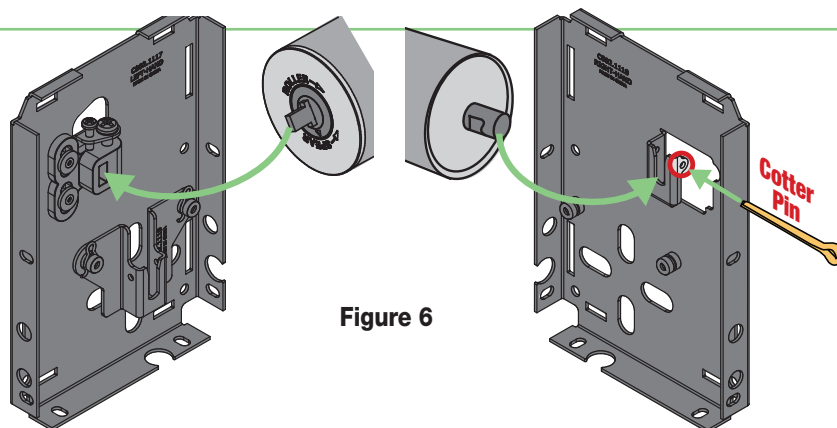

Figure 6
- Slide the fabric roller assembly into the brackets, spear-end first (Fig. 6).
- Install the cotter pin through the fabric roller idler bracket to secure the roller (Fig. 6). Bend one leg of the cotter pin down to lock it into place.